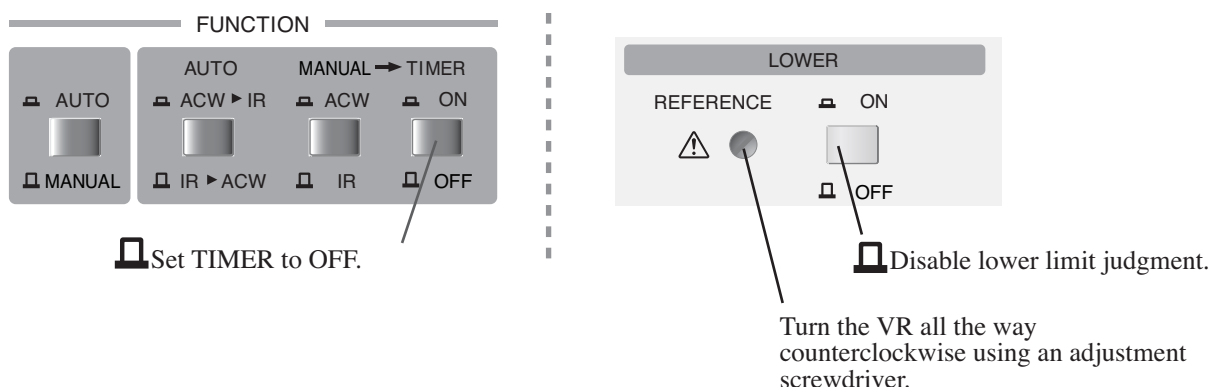

Fig. A-2 Preparing to Set the Current Detection Lower Reference Limit
2. Adjust the front panel settings as shown in Fig. A-2.